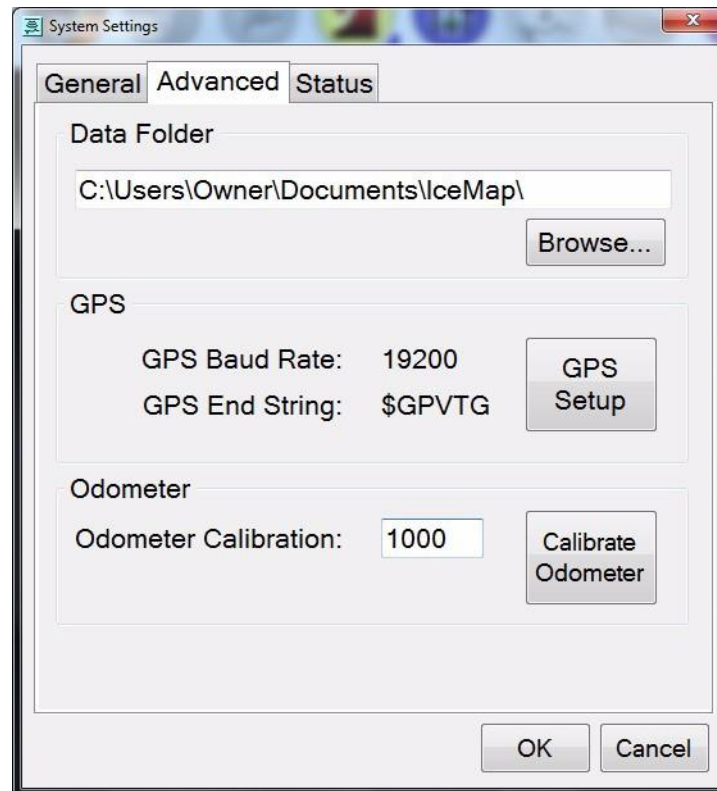

Figure 6-3: System Settings Advanced tab
- 4) In the **Odometer** pane, click **Odometer Calibration** (see Figure 6-3). This option is only available when the system is running.